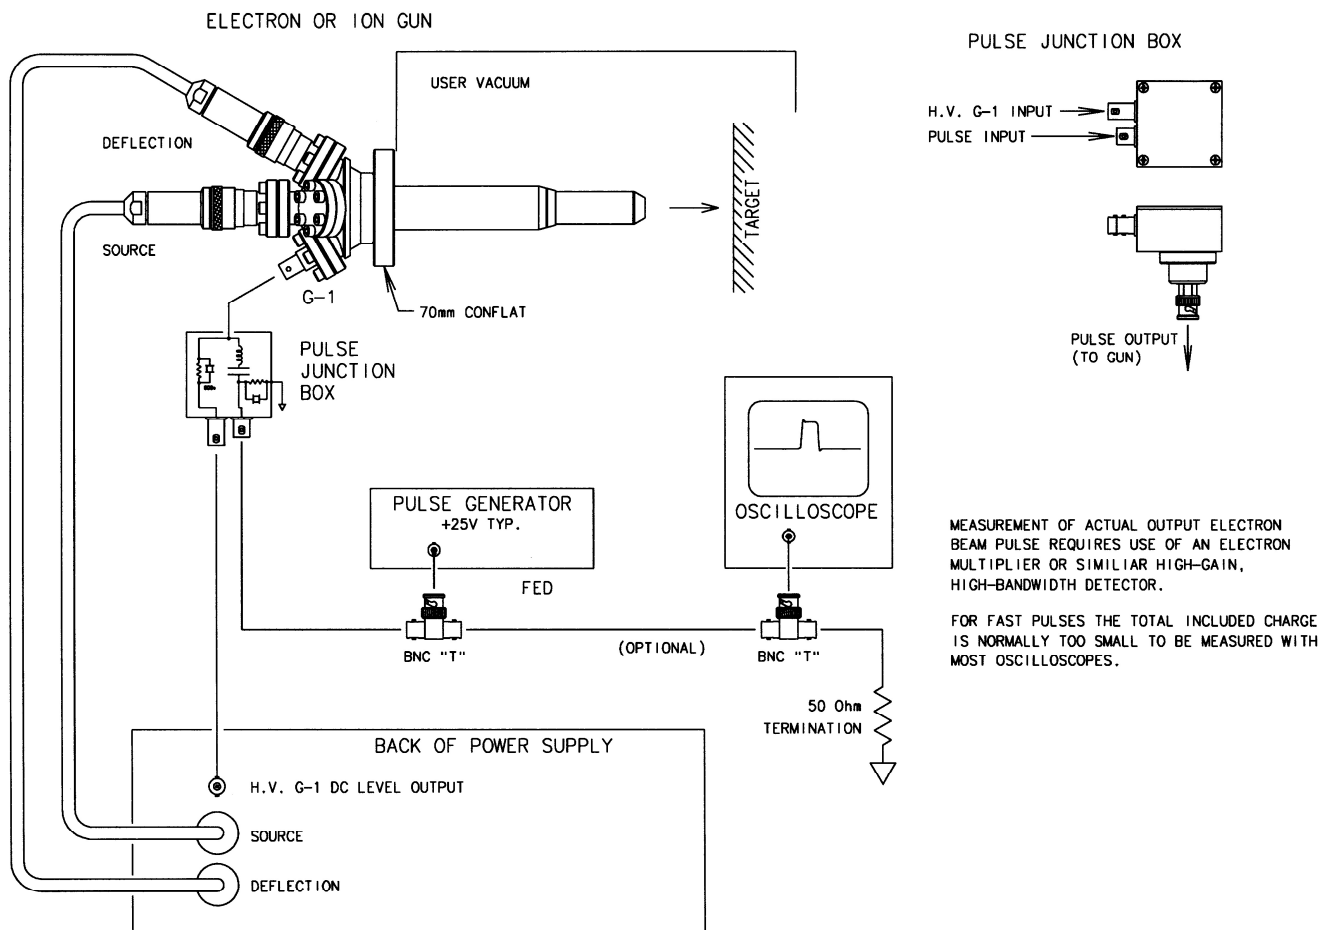

Fig. 4.7-4 Pulse Junction Box connections to gun, power supply and user-supplied equipment
2. See Fig. 4.7-4 below for a diagram of equipment layout. Also refer to the power supply and ion gun installation procedures in Sections 2.2 and 2.3.
4. Optional: Set up a user-supplied oscilloscope or other equipment to monitor pulsing; a terminating resistor may be needed. (Fig. 4.7-4)